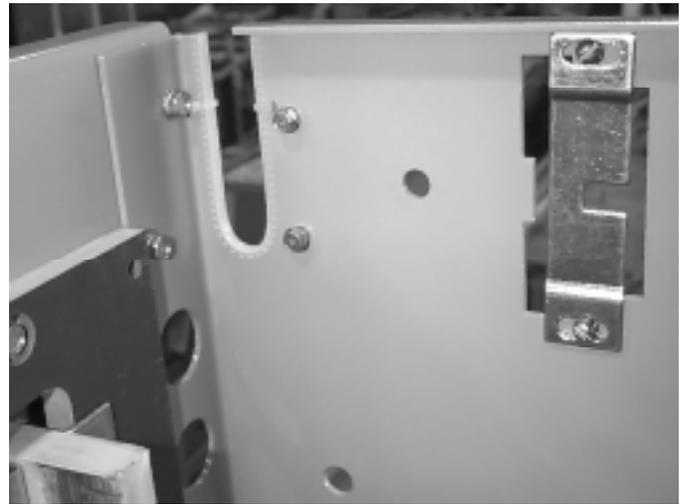

Figure 10. Inside rear corner of the Type 3 Draw-Out Substructure, showing the wire-exit hole and the Secondary Disconnect mounting slide.
2. Loosen, but do not remove, the two #10 screws holding the mounting slide, shown in Figure 10, just enough to loosen the slide. Move the slide forward in the Substructure to make room for the Secondary Disconnect mounting feet.